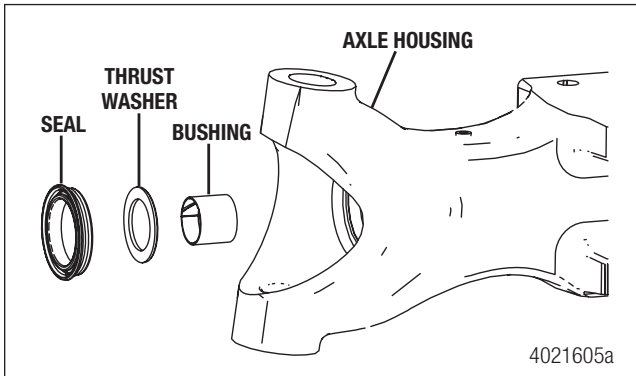

Figure 11.4
2. If the inner axle bushing was removed from the axle housing, apply a layer of Loctite® 680 sealant or equivalent on the outside diameter of the new bushing and install it into the axle housing. Figure 11.4.